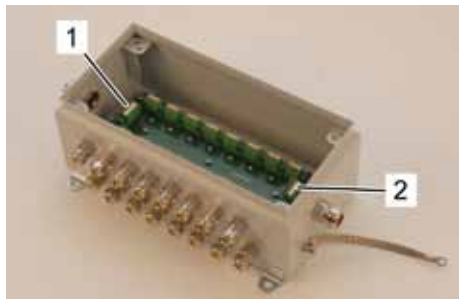

Fig. 112: Bus connection in Terminal box
3. Check X17 (Fig. 112/1) and X18 (Fig. 112/2) respectively for correct cabling and insertion of the leads.